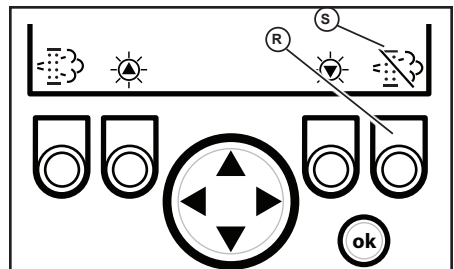

Fig. 47 - Reset Regeneration Inhibit button
To temporarily inhibit reset regeneration, hold down button (R, Fig. 47) until the strike-through in the Reset Regeneration symbol (S) turns to red.
**NOTE:** *The stationary regeneration request screen can be temporarily dismissed by pressing the reset regeneration inhibit button (R, Fig. 47) for 3 seconds. Until the previous screen displays. The stationary regeneration request screen will return 1 minute after being dismissed, for as long as the request remains active.*